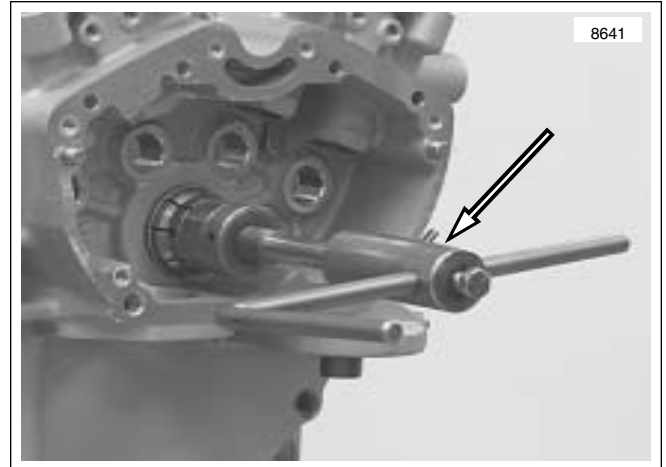

Figure 3-150. Lapping Pinion Shaft Bearing Outer Race with Crankcase Main Bearing Lapping Tool (Part No. HD-96710-40B)
2. See Figure 3-150. Obtain CRANKCASE MAIN BEARING LAPPING TOOL (Part No. HD-96710-40B). Assemble CRANKCASE MAIN BEARING LAP (Part No. HD-96718-87) to lapping handle. Assemble guide sleeve to sprocket shaft bearing bushing. Sleeves, for use with tapered bearing, are assembled to case with bearings and small spacer collar. Finger-tighten the sleeve parts.